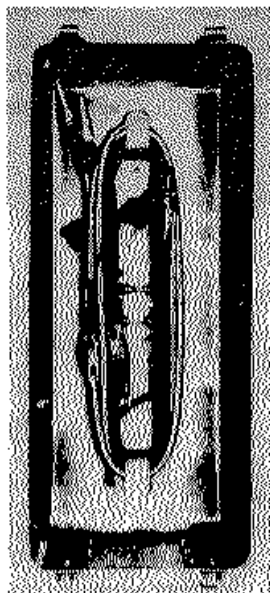

Figure 3-1.
c. CABLES (see figure 3-1).
(1) AC Power Cable.-A six-foot a-c power cable will be found inside the cover compartment of each equipment. This cable is fitted on one end with a standard two prong male a-c line plug and on the other end with a two prong female plug. The female plug fits into the flush male receptacle which is accessible on the rear panel of the unit. The cord must be removed from the receptacle before the top cover can be replaced.
(2) Accessories.-There are three test leads, one ten inches long and two three feet long, in the top cover. Two spare fuses will also be found in the top cover.